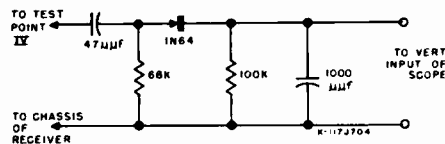

FIGURE 4. DETECTOR NETWORK
2. Connect detector network (Figure 4) to Test Point IV and set contrast to maximum. Connect oscilloscope to network.